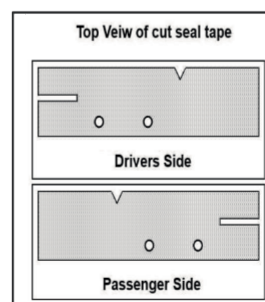

Figure 16
- Cut 2 pieces from the supplied seal tape 270mm long. Use the supplied Seal Template to mark and cut 1 piece to suit the driver's side of the headboard and 1 piece to suit the passenger side of the headboard. Refer to Figure 16.